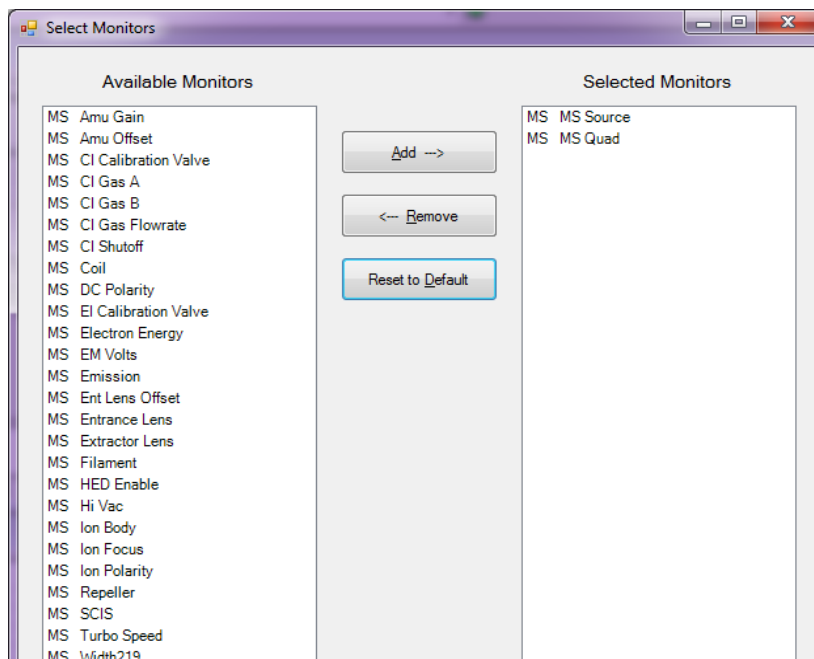

Figure 26 Select monitors dialog
- 1 In **Instrument Control** view, select **Edit Monitors** from the **Instrument** menu to display the **Select Monitors** dialog. (See Figure 26.)